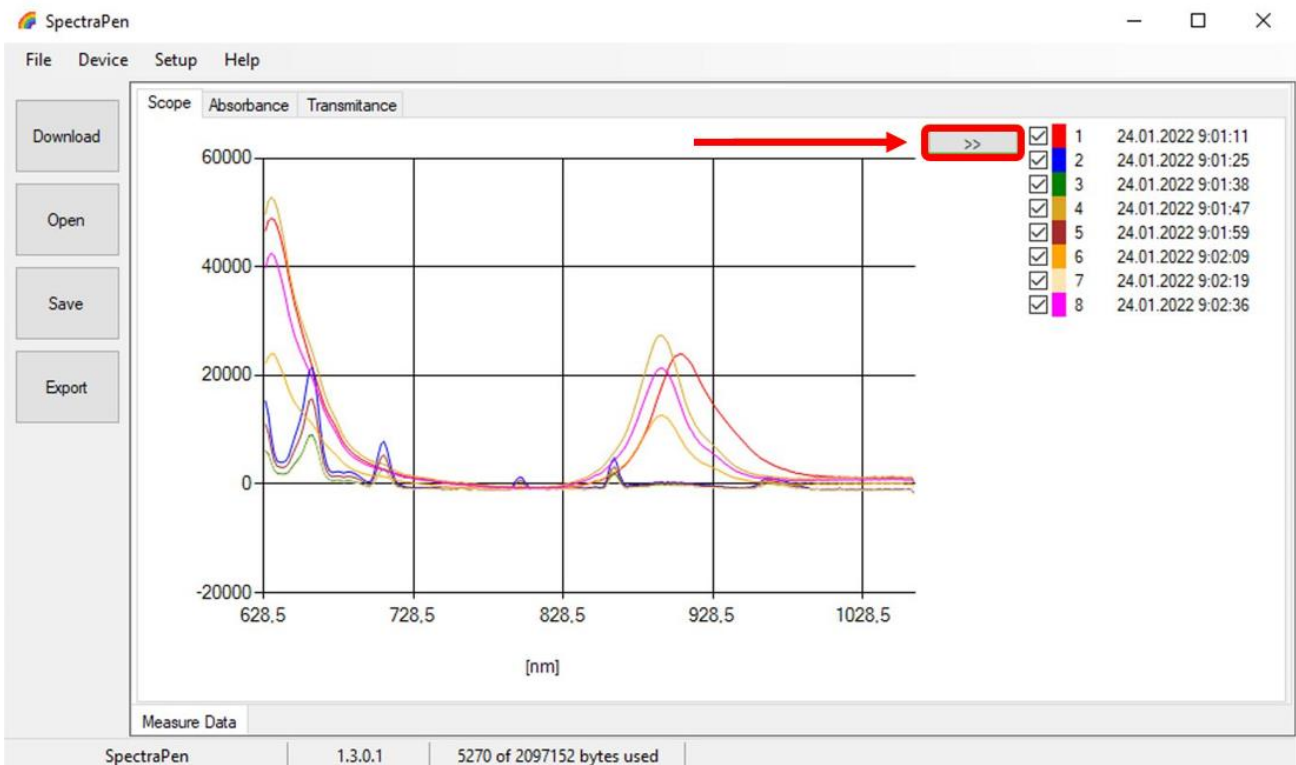

Fig. 28 Numerical values calculated from spectra.
10. To view **calculated values**, use double arrow in the top right corner (Fig. 28, in red rectangle).